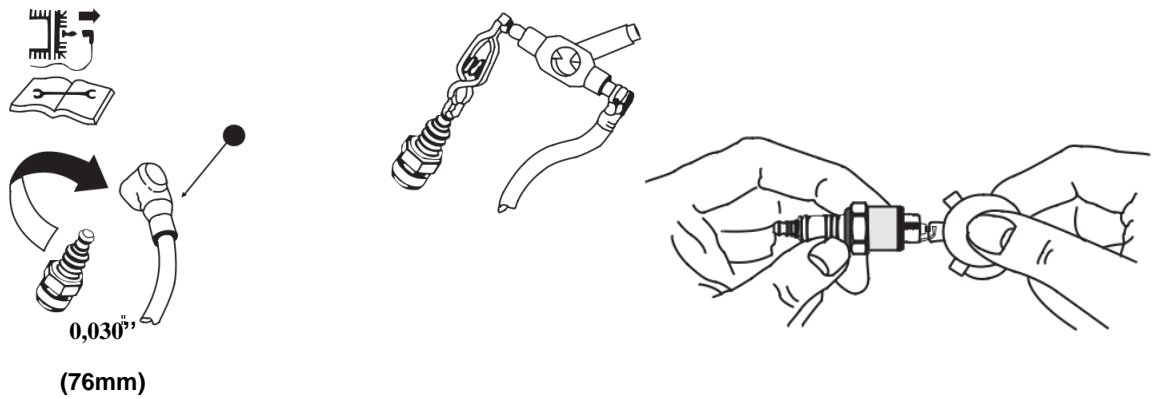

Figure 16
**5.6. Sparking Plug Replacement or Maintenance:** Replace or clean the spark plug after every 100 operating hours. Adjust the spark plug gap to 0.76 mm with a feeler (Figure 16). Do not destroy the clean spark plug. Clean the spark plug by scraping or with a wire brush.